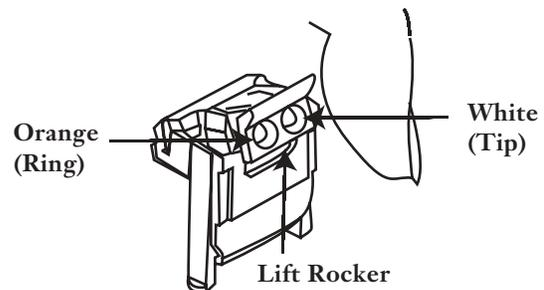
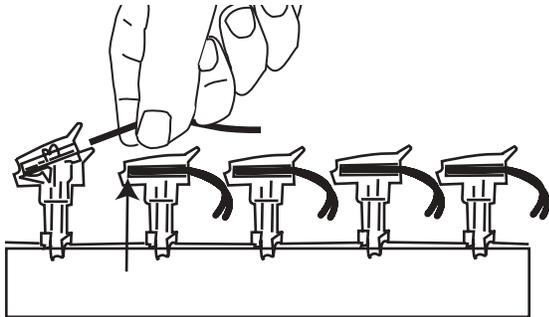
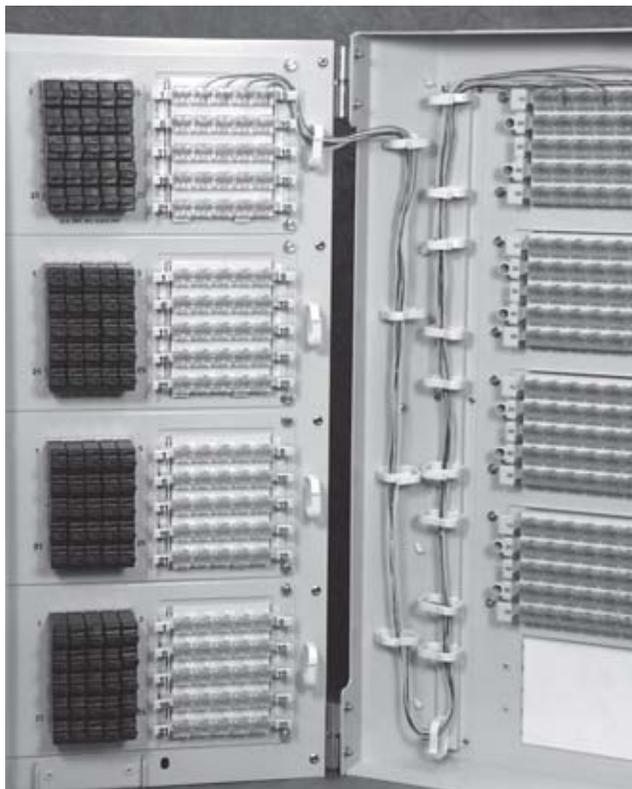

Figure 6
Figure 7
Figure 8
8.3 Using your fingertip, pull the IDC lever up to approximately a 45-degree angle, exposing the white tip and orange ring holes (Figure 6).
8.4 Insert the insulated wires in the tip and ring holes as shown in Figure 6. Visually verify through the transparent lever that both wires are inserted fully (Figure 7). Push the lever down to make the electrical connection.
9.2 To install a jumper wire, locate the BET line that is to be connected. Using your fingertip, pull the IDC lever to approximately a 45-degree angle, exposing the white tip and orange ring holes. Insert wires in the tip and ring holes (Figure 6). Visually verify through the transparent lever that both wires are inserted fully (Figure 7). Push the lever down to make the electrical connection.
9.3 **Routing jumper wires** — Dress the jumper wire straight through the wire rung to the right of the IDC field on the BET layer as shown in Figure 7. Then, dress the jumper wire down through the first row of wire rungs and up through the second row of wire rungs on the Cross-connect Layer (Figure 8). Terminate the wires on the appropriate IDC connector.